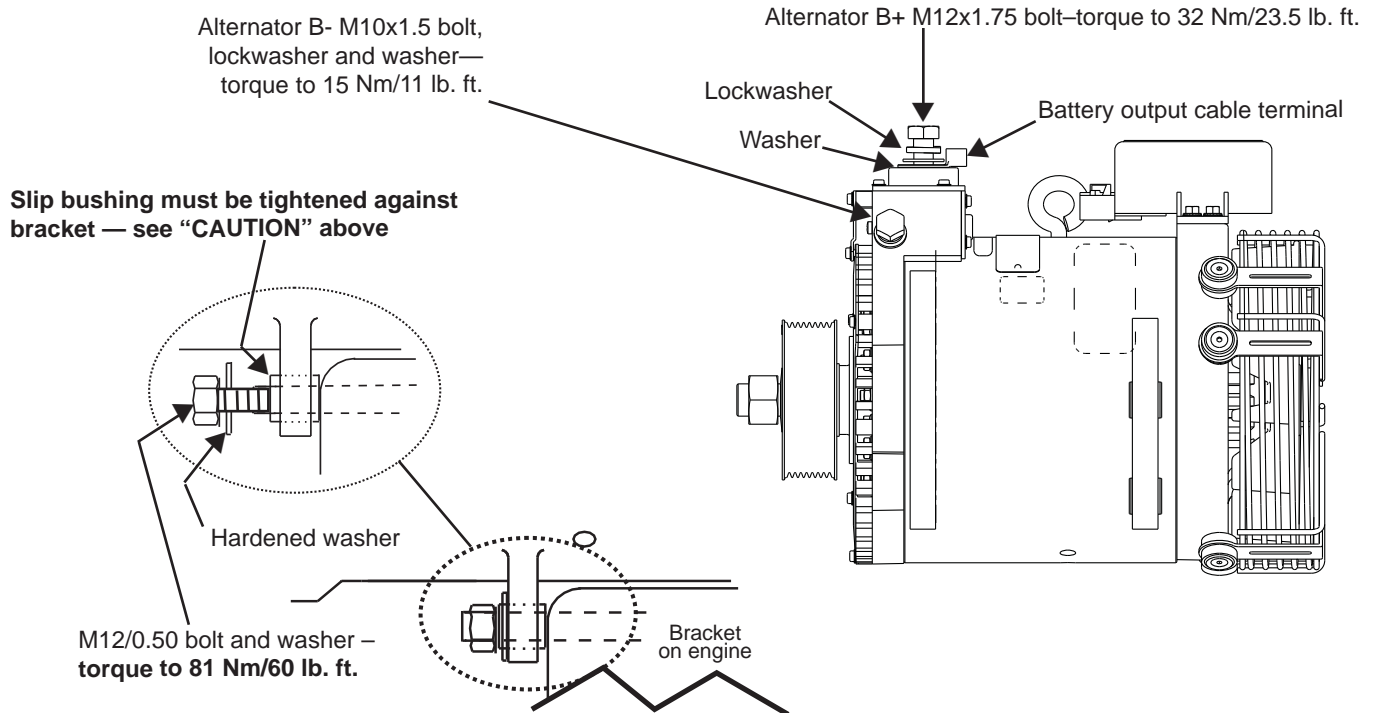

Figure 1 - C626 Alternator Installation Details
1. Install alternator as shown in Figure 1: